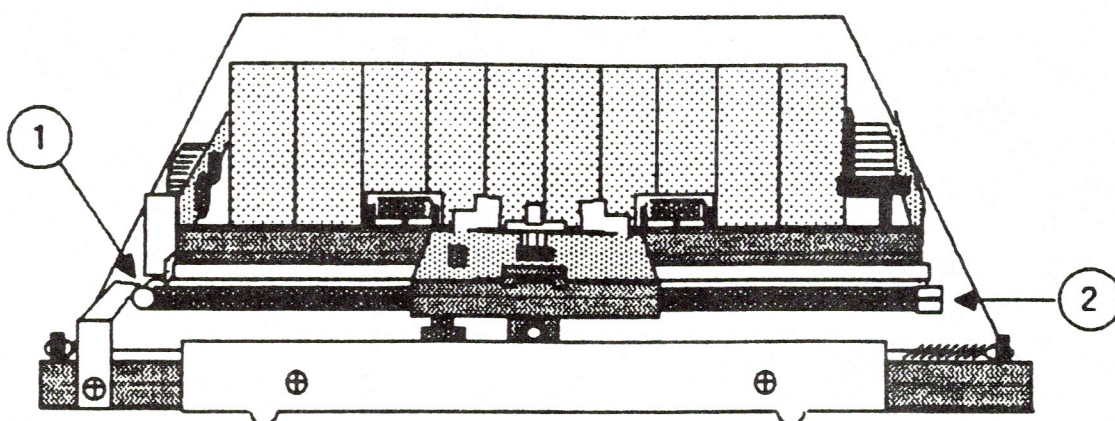
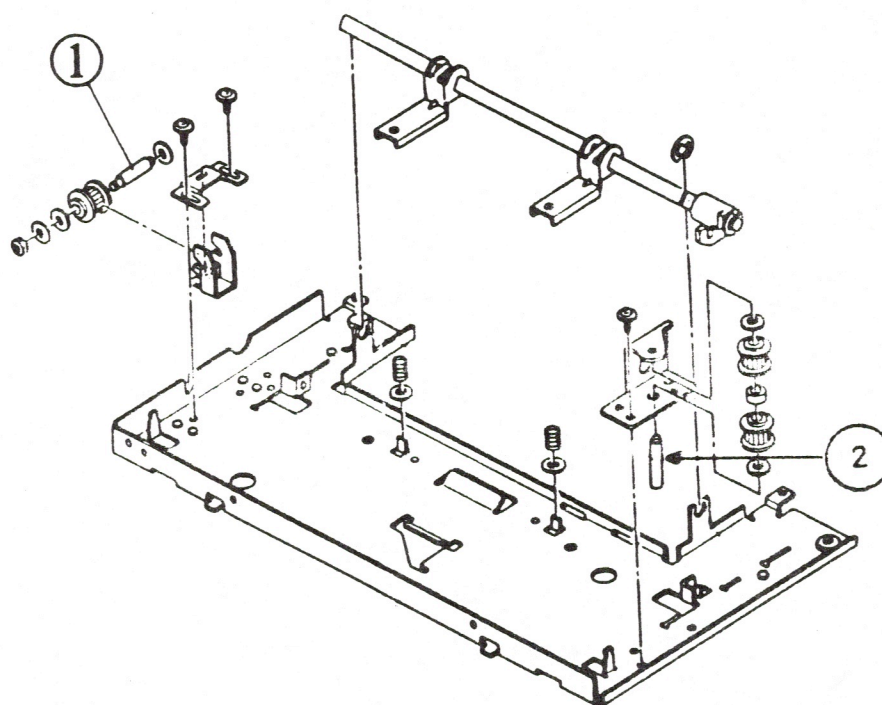

Figure 7
Figure 8
- a) Remove the pulley assembly from its slot (see Figure 7, #1; exploded view in Figure 8, #1).
- a) Remove the two screws at the base of the right drive pulley assembly (Figure 7, #2; exploded view in Figure 8, #2), and remove the assembly from the printer.